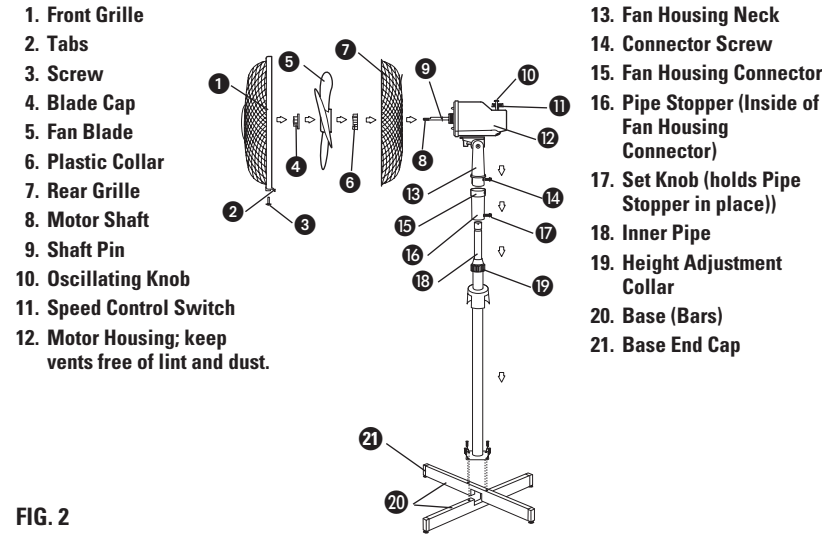

FIG. 2
- CAUTION: Never remove the set knob, which holds the pipe stopper in place (See Fig. 2).**
7. Insert the blade onto the motor shaft, matching the slot on the back of the blade with the shaft pin (Fig. 2). Secure blade with blade cap, turning counterclockwise to tighten.
**TO CLEAN:** Before cleaning, turn fan off and unplug from electrical outlet. Wipe off excess dust with a lint-free cloth. To ensure adequate air circulation to the motor, keep vents located at the rear of the motor housing free from dust accumulation. A vacuum cleaner hose can be used to clean these vents. Do not submerge your fan in water or any other liquid. Disassemble grilles and blade (Fig. 2). Grilles and blade may be cleaned with mild soap and water. Use a soft, slightly damp cloth to wipe the remaining fan parts. Do not allow water or any other liquid to get into the motor housing or base. Reassemble fan after grilles and blade have dried completely. Do not plug fan into electrical outlet until it has been fully reassembled.